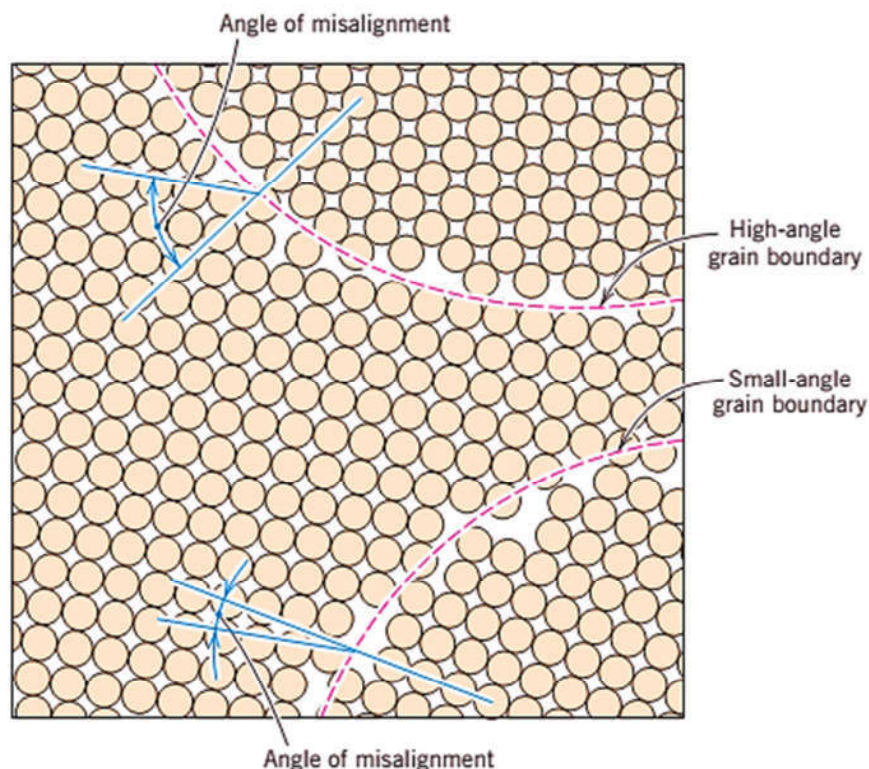

Figure 6 Schematic diagram showing small and high-angle grain boundaries
- 2) Grain Boundaries:** Boundaries between two grains. These useful in etching process during the preparation of sample for microscopic examination, where grain boundaries are chemically more reactive (more corrosive) because of grain boundary energy, this help to detect the distinct phases. A small and high-angle grain boundaries are represented schematically from an atomic perspective in **Figure 6**.